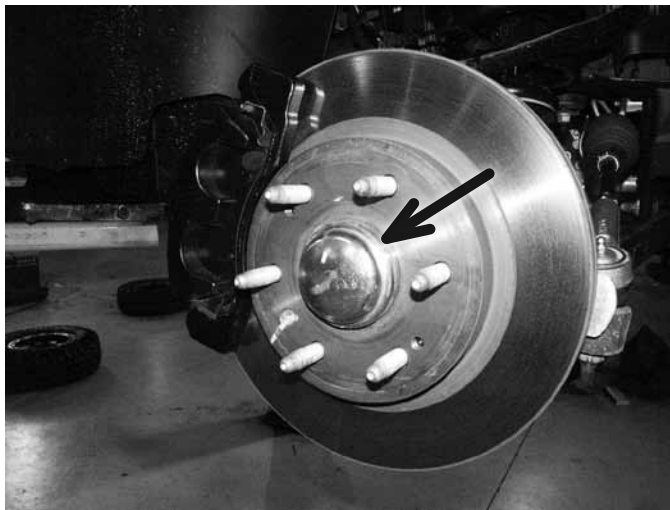

Figure 5
9. Remove the hub dust cap **Figure 5**. Remove the axle shaft nut. Retain nut and cap.